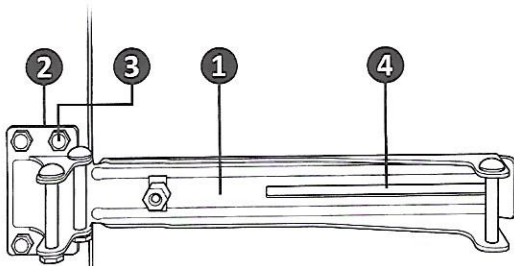

figure 1
1. Place **Tie Bar ①** on the door or gate with **Bracket Hinge ②** on door casing or post (works on left or right hand doors by reversing **Bracket Hinge**). Align the edge of the **Bracket Hinge** with the edge of the door casing or gate post. Mark and then drill a 3/16" hole in anyone of the four **Bracket Hinge** holes, and insert and tighten one **1-1/2" Screw ③**. If the wood post is round, the **Bracket Hinge** must be mortised into the wood post for firm mounting (figure 1).